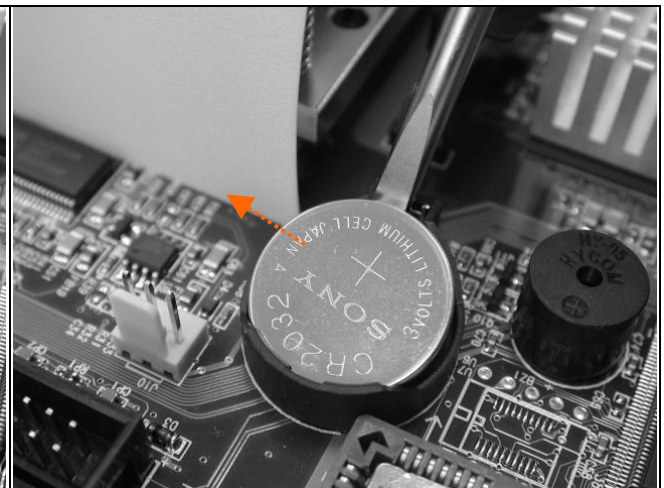

Fig. 2-25
3. Then reappear step 1 to 2 to install more RAM module. (**Fig. 2-25**)
2. The battery springs automatically. (**Fig.2-25**)